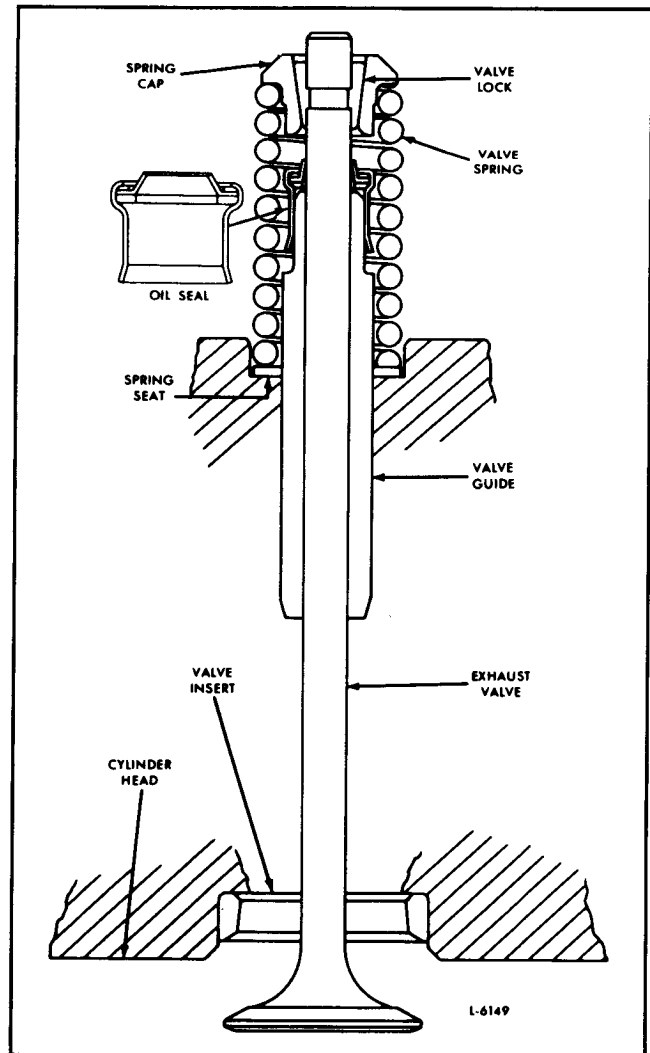

Fig. 18 - Current Valve Guide Oil Seal
Current Oil Seal (Fig. 18) (metal case and reduced inner diameter)
- c. Install the spring seat washer over the valve guide and let it drop into the valve counterbore (Fig. 18).